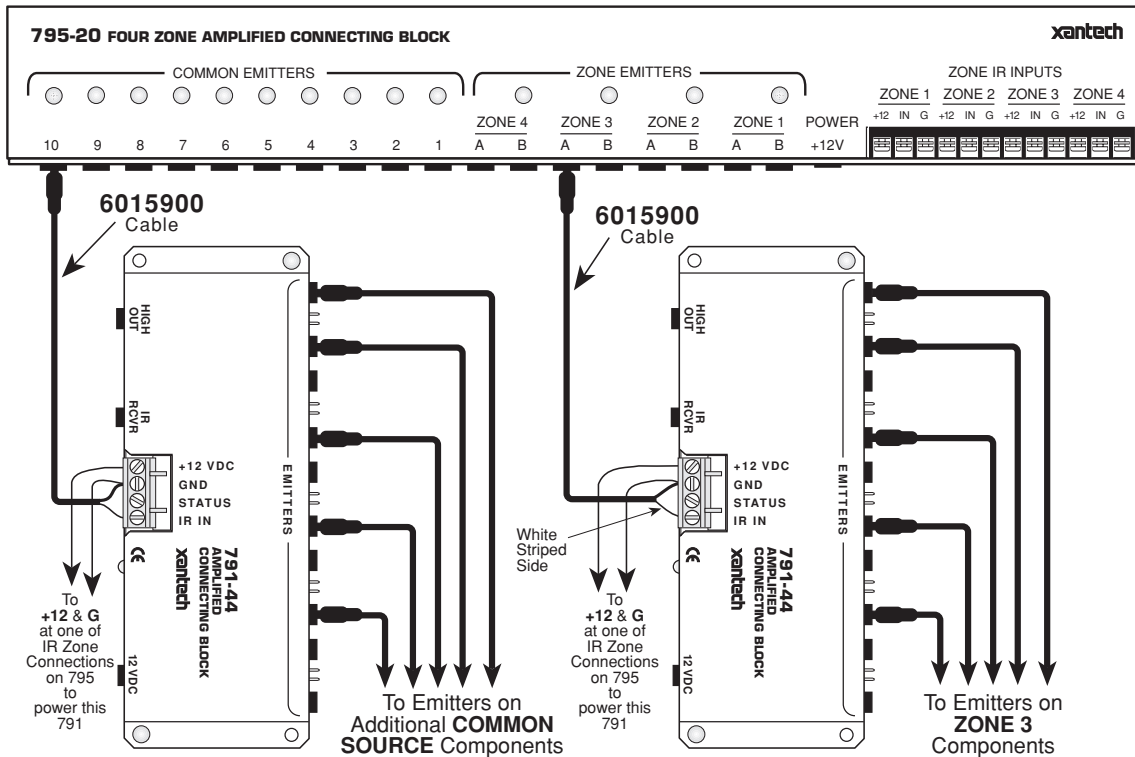

Fig. 4 Emitter Expansion - Common and Zone Ports
To expand beyond 4 emitters, connect a 791-44 Amplified Connecting Block at the "A" or "B" port. This makes a total of 11 ports available for that particular zone. See example in **Fig. 4**.
2. Common Output Ports. If more than 10 common emitter ports are needed, you may use any one of the common ports to drive the input of a 791-44 Amplified Connecting Block. This will give you a total of 19 common ports. See **Fig. 4**.